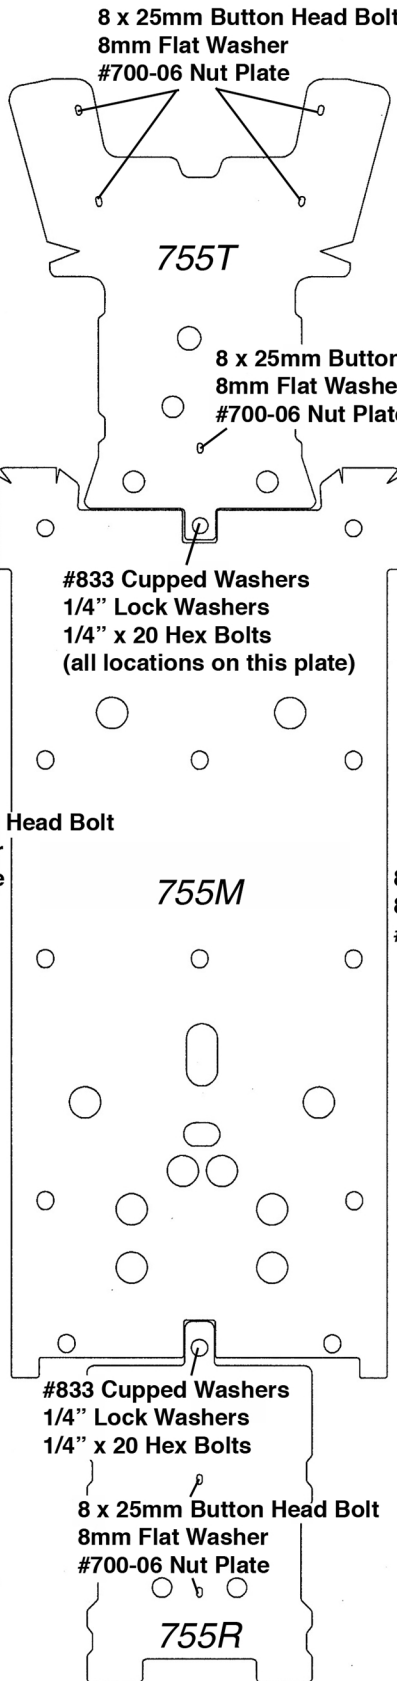

Fig 1
- Install the #700-07 Nut Plate inside the floor board bracing bar as shown in Fig 1. Use the larger HD washer & the 8 x 20mm Bolt to secure it in place.